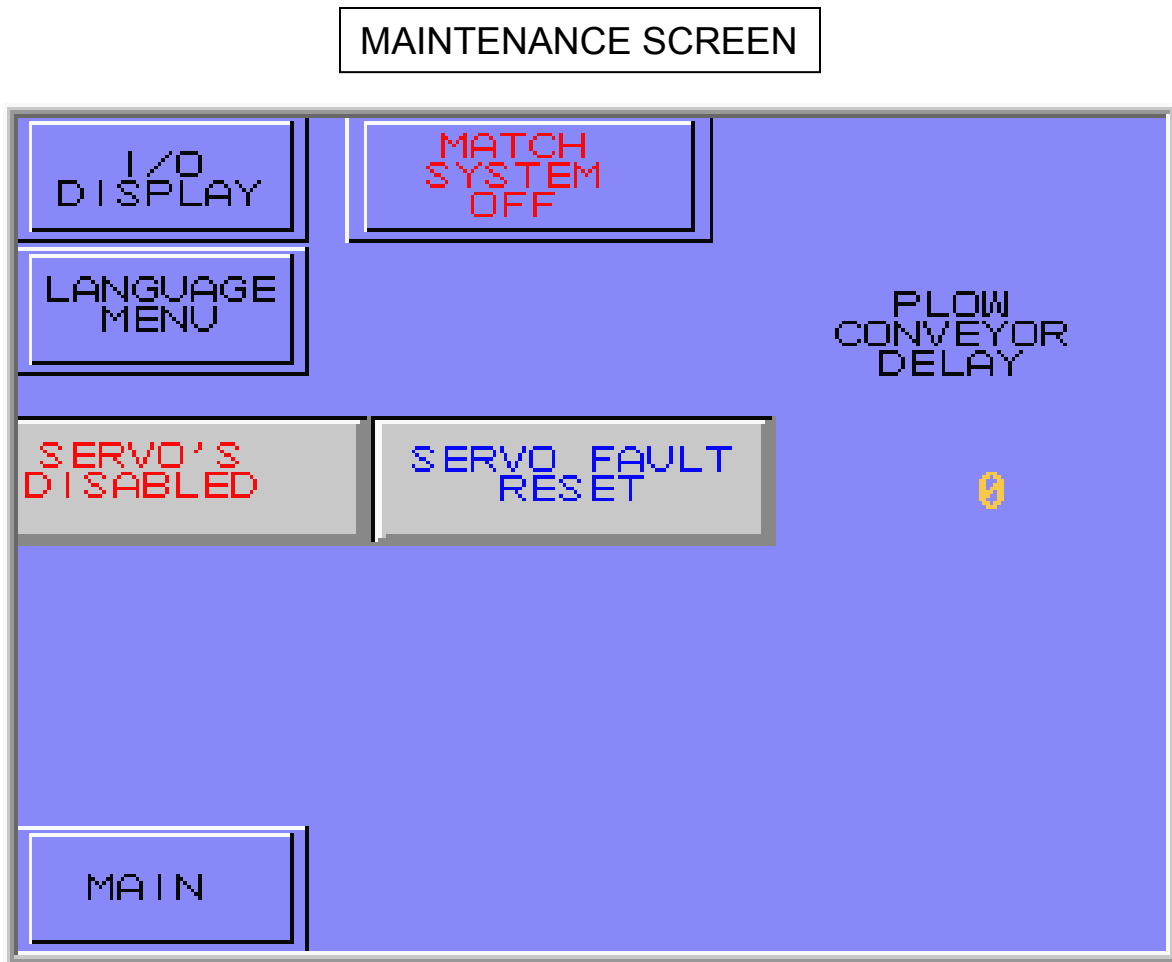

Figure III-21
6. The **MAINTENANCE** SCREEN is now displayed on Human Machine Interface (HMI). See figure III-21.